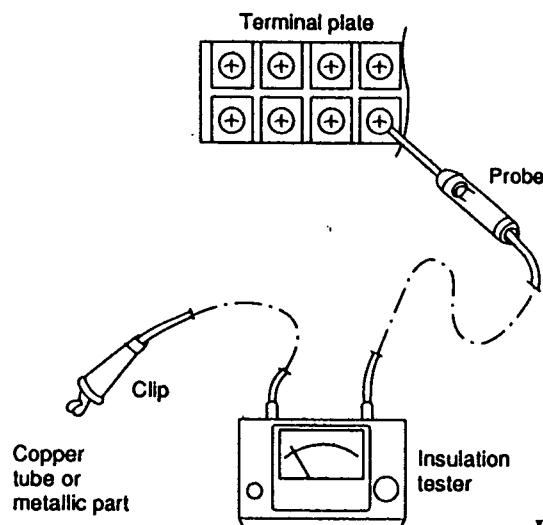

Fig. 2
Clamp an aluminium plate fin or copper tube with the lead clip of the insulation resistance tester and measure the resistance by placing a probe on ①, and then ② on the terminal plate. (Fig. 2)
Clamp a metallic part of the unit with the lead clip of the insulation resistance tester and measure the resistance by placing a probe on ①, and then ② on the terminal plate. (Fig. 2)